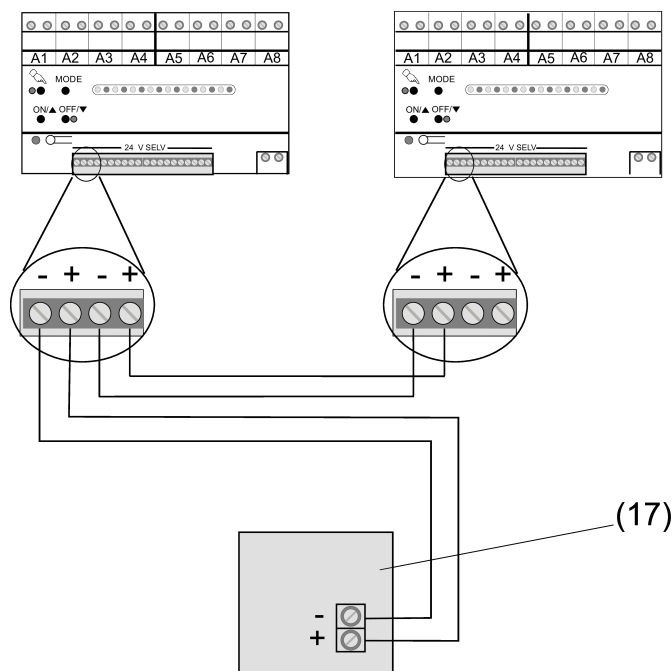

Figure 10: Connection example of one sensor module or push-button sensor module to two relay stations
- Connect the sensor module or push-button sensor module to the relay stations according to the connection example (see figure 10).